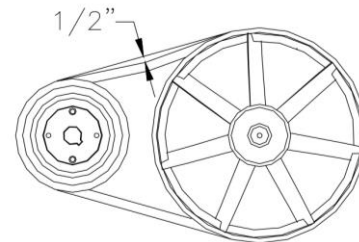

Figure 9
7. Check for proper belt tension. (Figure 9)